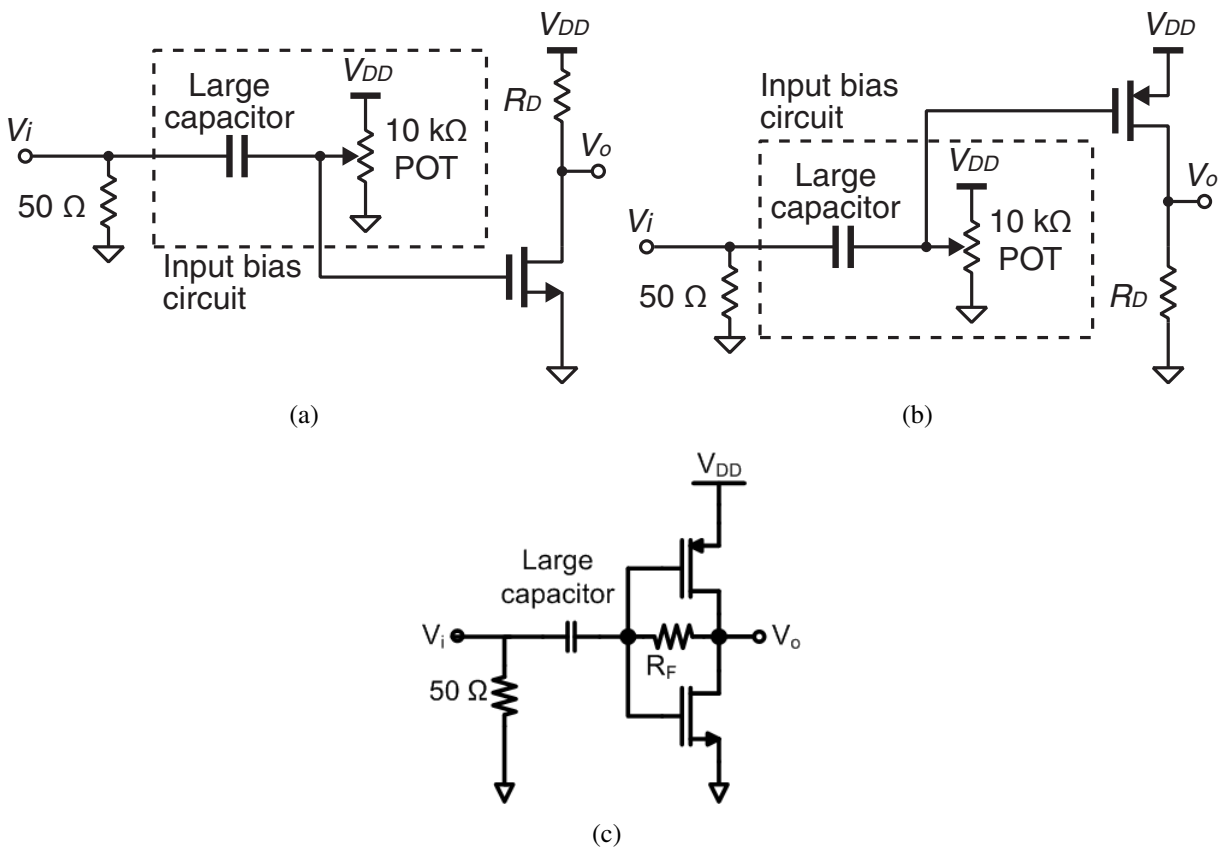

Figure 3: (a) NMOS, (b) PMOS and (c) CMOS inverter common-source amplifiers with bias circuits and input DC-blocking capacitor.
2. Place the input bias circuit for the NMOS and PMOS common-source amplifiers on the breadboard as shown in Figure 3, and tune the potentiometer for the input bias voltage found in part 1. **This input bias circuit is used many times in future labs** so make sure you feel comfortable with it. The CMOS amplifier is self-biased through the feedback resistor, therefore you need not connect any other bias network.